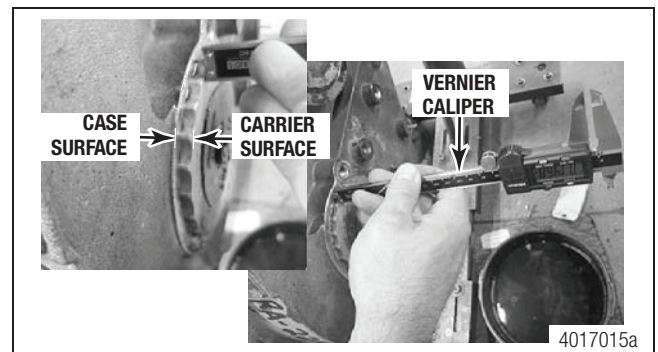

Figure 11.10
- At this time use the Vernier caliper to verify the carrier depth measurement is within 0.039" (1 mm) of the original reference measurement. If the out of specification, remove the adjustable bearing carrier and reinstall. Figure 11.10.